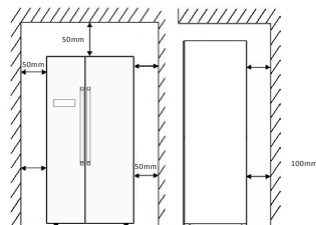

Fig. 1
- Ensure sufficient spacing is provided for the appliance to be installed. Leave space on both sides (50cm), back (10cm) and above the appliance (50cm) to ensure proper ventilation and door opening. See fig. 1 & 2